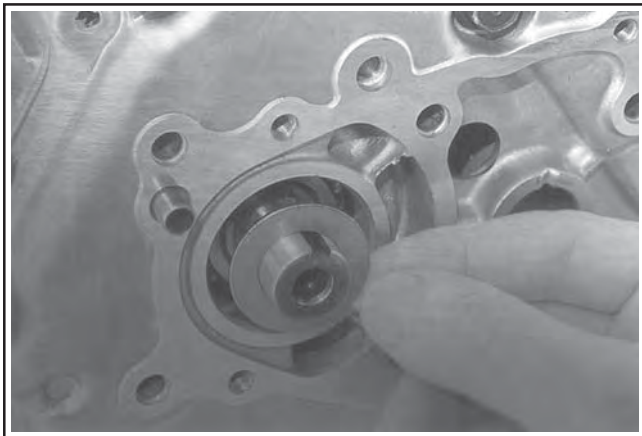

Figure 11-27. CS4, CS6. Installing Thrust Washer.
4. CS4, CS6: Reinstall the washer (behind crankshaft key) and crankshaft key. Install the chain around both the crankshaft sprocket and the output shaft/sprocket assembly, then slide the complete assembly into place. Reinstall the wave washer onto the output shaft. See Figures 11-27, 11-28, and 11-29.